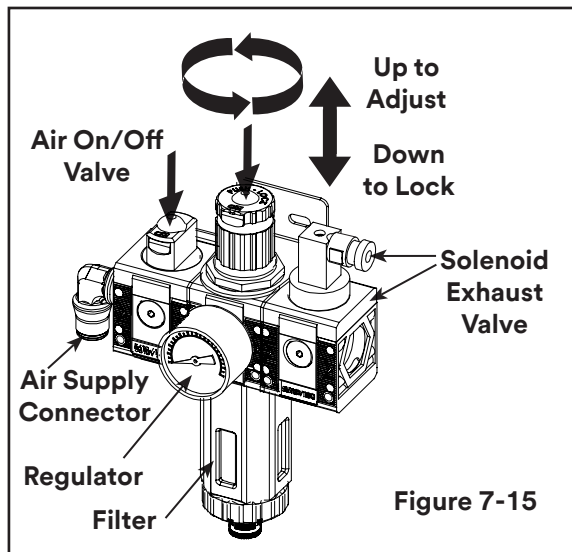

Figure 7-15
See Specifications for compressed air supply needs. As shown in Figure 7-15, an on/off valve, pressure regulator, and filter are provided to service the air supply.
2. Main Air “On/Off” Valve/Pressure Regulator/Filter/Exhaust Valve – Figure 7-15